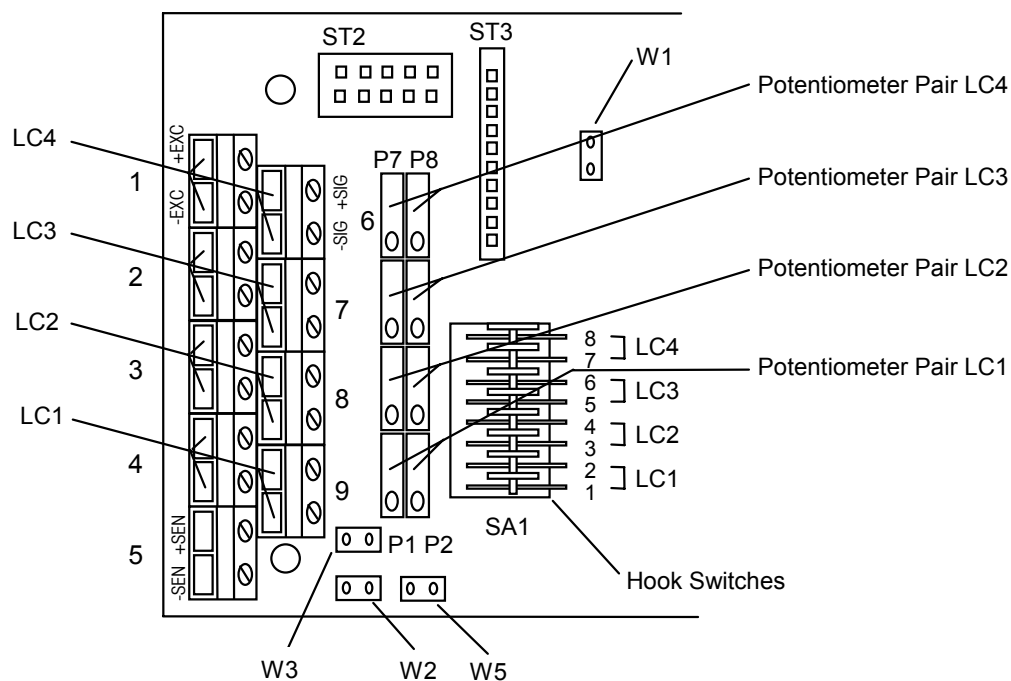

Figure 4-1: IDNet Potentiometer Adjustment
Perform the shift adjust procedure using the load cell trim potentiometers mounted on the PCB inside the IDNet junction box (see Figure 4-1).
2. Activate the trim potentiometers by opening the eight hook switches (if they are not already open) on the PCB (see Figure 4-1). Once activated, the switches remain open. Do not close the latches, even after completing the shift adjustment.